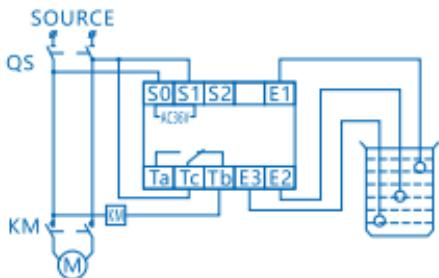

Figure 2 Wiring Diagram of
3.2 Wiring diagram: see Figure 2~ Figure 9.